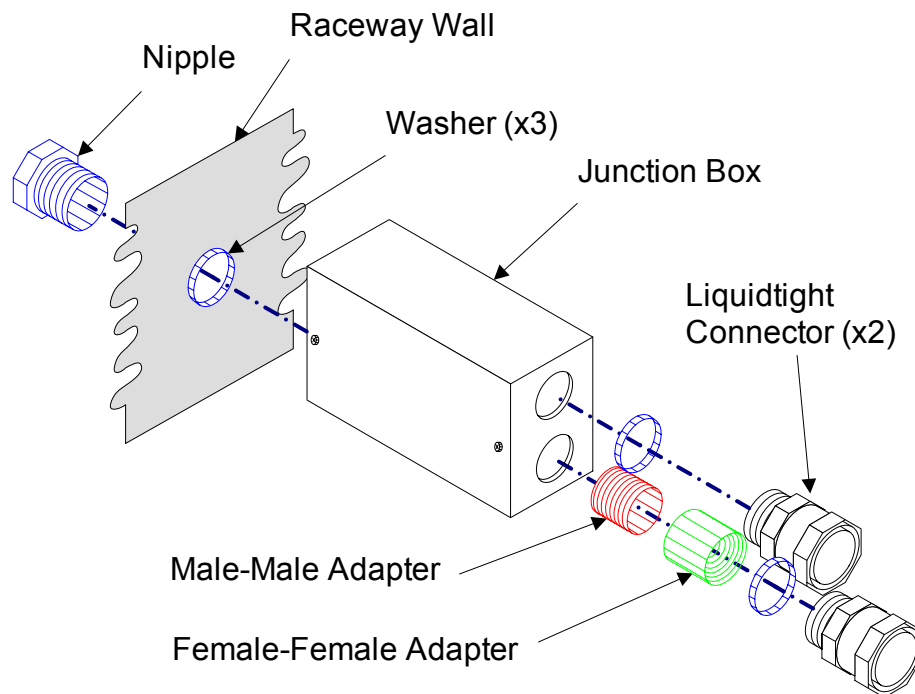

Figure 5. Conduit Junction Box Assembly
12. Assemble the conduit junction box as illustrated in Figure 5.